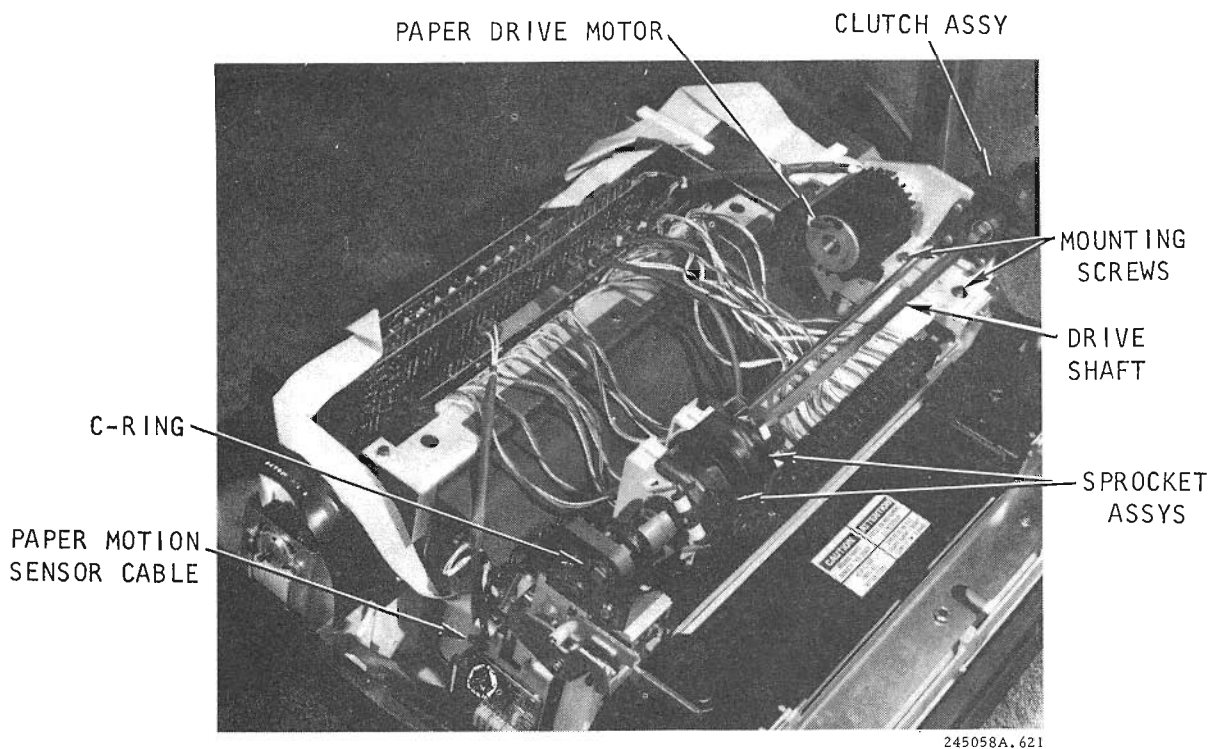

Figure 6-21. Paper Feed Assembly
- c. Remove the right-hand mounting screws (see figure 6-21) and the left-hand C-ring. Unplug the paper motion sensor cable.